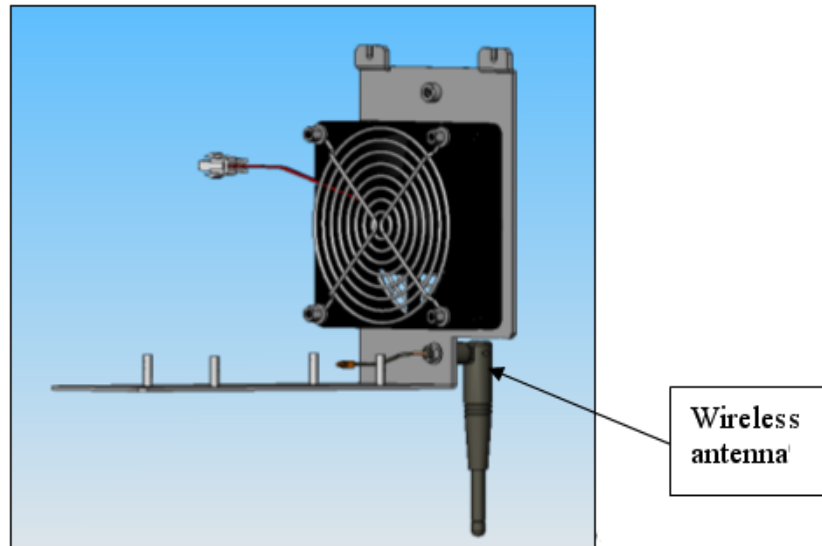

Figure 3: Wireless Antenna
7. Hand tighten the antenna to the fan bracket, and then apply a ½ turn using an adjustable wrench (Figure 3: Wireless Antenna).